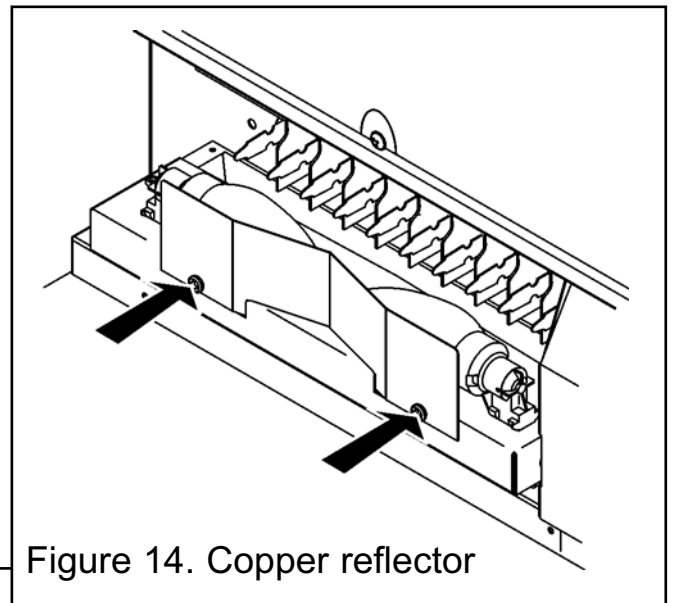

Figure 14. Copper reflector
2. Unscrew and remove the copper reflector plate (See figure 14).